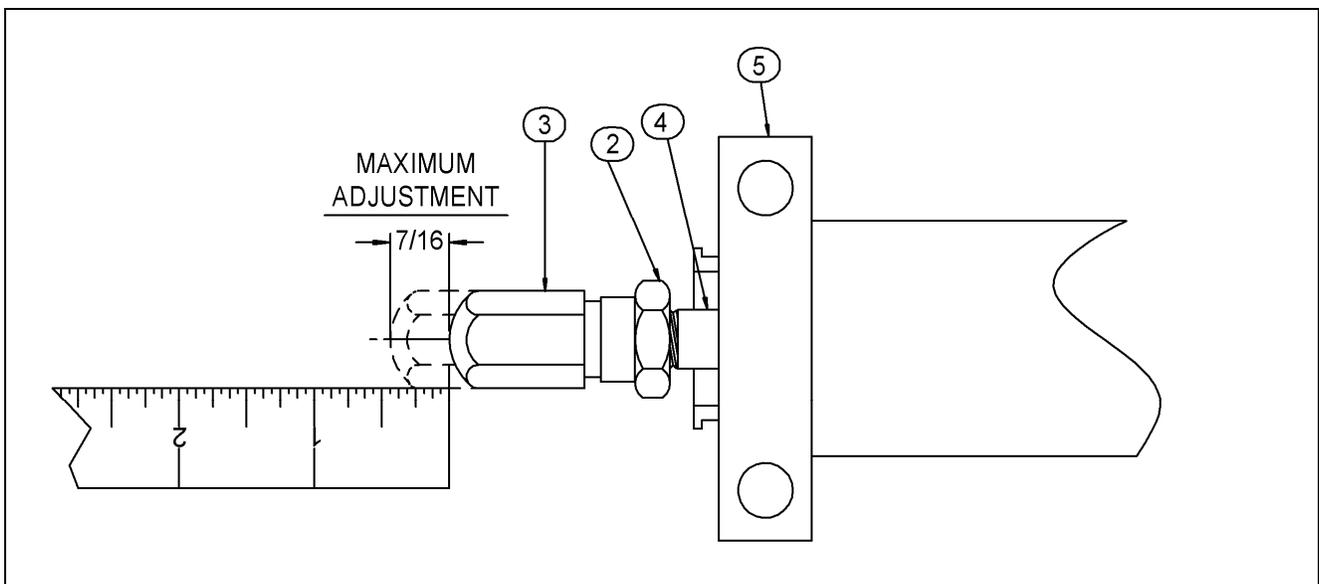

Figure 14: Maximum Adjustment $\frac{7}{16}$ "
Caution: Use caution not to over stroke the Limit Valve. If the adjusting cap is adjusted away from the valve too far, resulting in the paddle trying to stroke the valve past its limits, the poppet will be destroyed in the valve. (See Figure 14)
14. If the valve does not work correctly (there is an audible sign that power gas is leaking out of the exhaust of the poppet block) or there has been adjustment made to the actuator stops. Adjust the valve in small increments until the control is neutralized at the end of the stroke. The stroke of the valve must not exceed 7/16"; see Caution above and Figure 14.